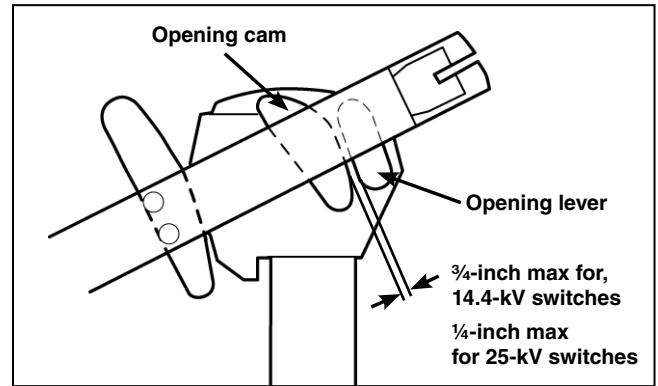

Figure 36. Blade assembly moving in the *closing* direction.
- (b) As the blades move in the *closing* direction, clearance between the blade-opening cams and the interrupter-opening levers must be within the limit shown. See Figure 36.